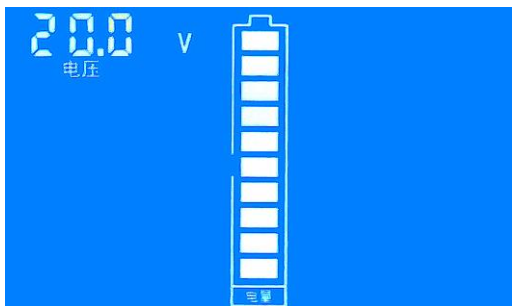
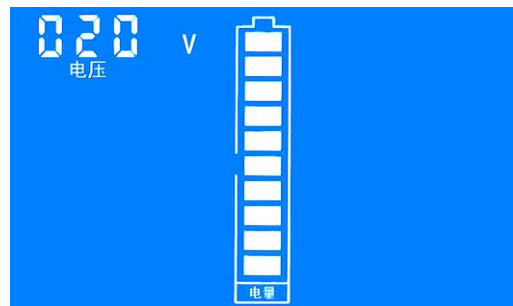

Figure 3: full voltage setting interface (low bit)
Figure 4: full voltage setting interface (high bit)
Step 2: SET character blink present it is the setting status of full / cut-off voltage, long press the button until the LCD screen displays the interface like fig. 3, then release the button.
Step 3: At this time, the battery symbol display full grids energy means the full voltage setting status, factory default the full voltage is 020.0V, the numerical code circulation flashing from the low bit to the high bit show that the current setting digit, short press to set the digit; please pay attention that, as the full voltage setting value has 4 digit, but the numerical code has only 3 digit, So the setting is divided into two parts: low bit (fig. 3) + high bit (fig. 4). For example, the default full voltage is 020.0V, then the display state is 20.0V to 020V low and high cyclic switching display. If you need to set the full voltage is 199.0V, then please set the low bit to 99.0V, when the cycle reaches the high bit, it will display 099V, and only the highest zero bit flicker to prompt it can be setted. Setting the high bit to 199V represents the full voltage is 199.0V.